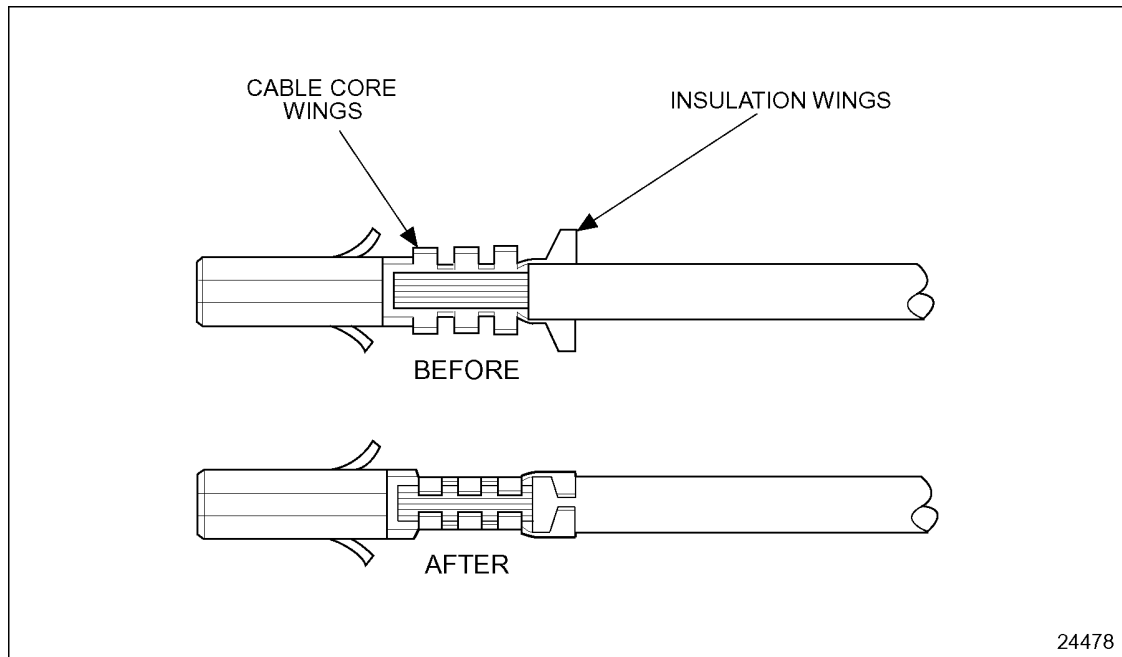

Figure 8-28 Cable and Terminal Position Before and After Crimping
4. Insert the terminal into the locating hole of the crimping tool using the proper hole according to the gage of the cable to be used. See Figure 8-28.
5. Insert the cable into the terminal until the stripped portion is positioned in the cable core wings, and the seal and insulated portion of the cable are in the insulation wings. See Figure 8-28.
6. Compress the handles of the crimping tool until the ratchet automatically releases and the crimp is complete. See Figure 8-28 for a properly crimped terminal.